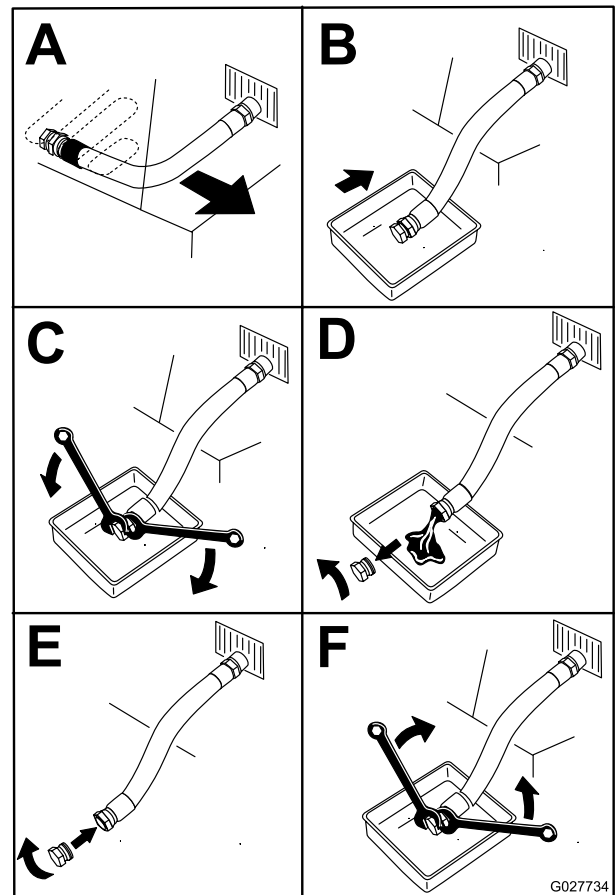

Figure 42
5. Drain the oil from the engine (Figure 42).